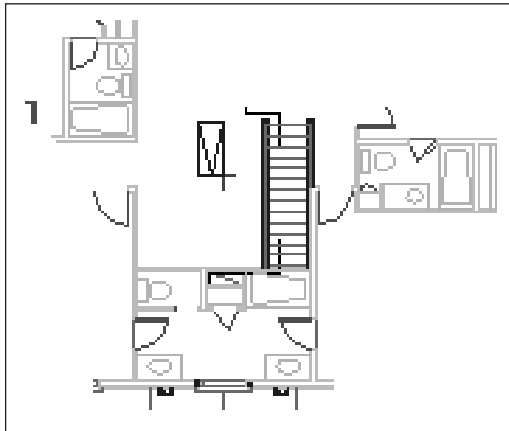

Figure 19-12: The clipped xref
11. Save your drawing. It should look like Figure 19-12. Keep the drawing open if you are continuing on to the next exercise.